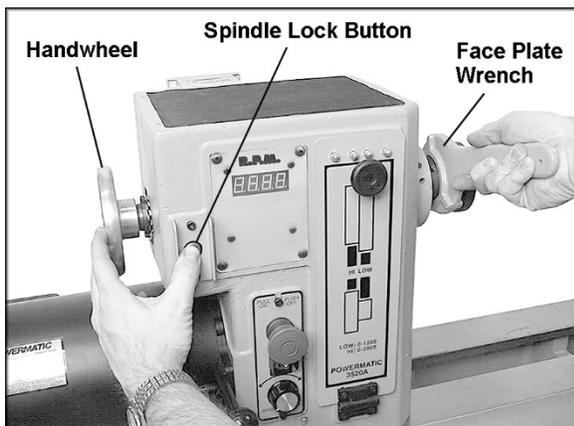

Figure 20
3. Push in the spindle lock button (Figure 20) and rotate the handwheel slightly until the spindle locks. Keep the spindle lock button pushed in.